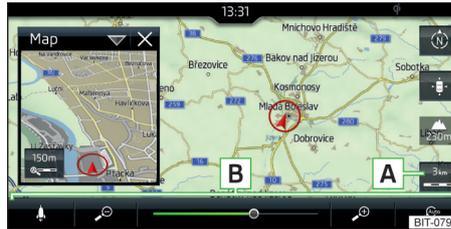

Fig. 211
▶ Tap on function surface **A** » Fig. 211 or » Fig. 212.
In area **B** » Fig. 211 or » Fig. 212, the function surfaces for changing the map scale are displayed.
- ▶ Tap on function surface **A** and set the desired scale with the slider or using the function surfaces / » Fig. 211 (applies to Infotainment Columbus)